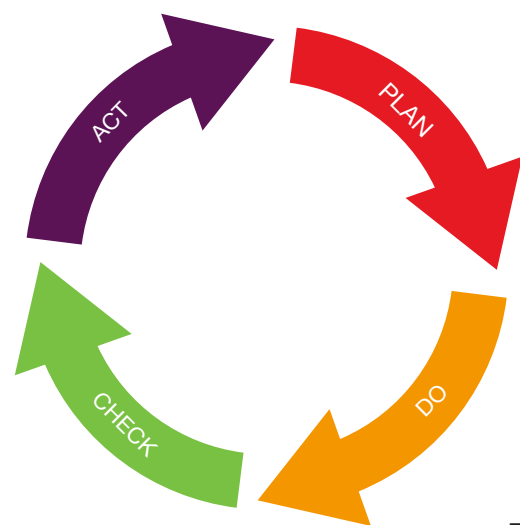

Fig. 2
- Work Planning - Get the team to meet regularly to create Work Plans, by using the Plan-Do-Check-Act (PDCA) cycle (see Figure 2) and focus on making and keeping reliable promises - say what we do, do what we say - measuring and learning as they go.